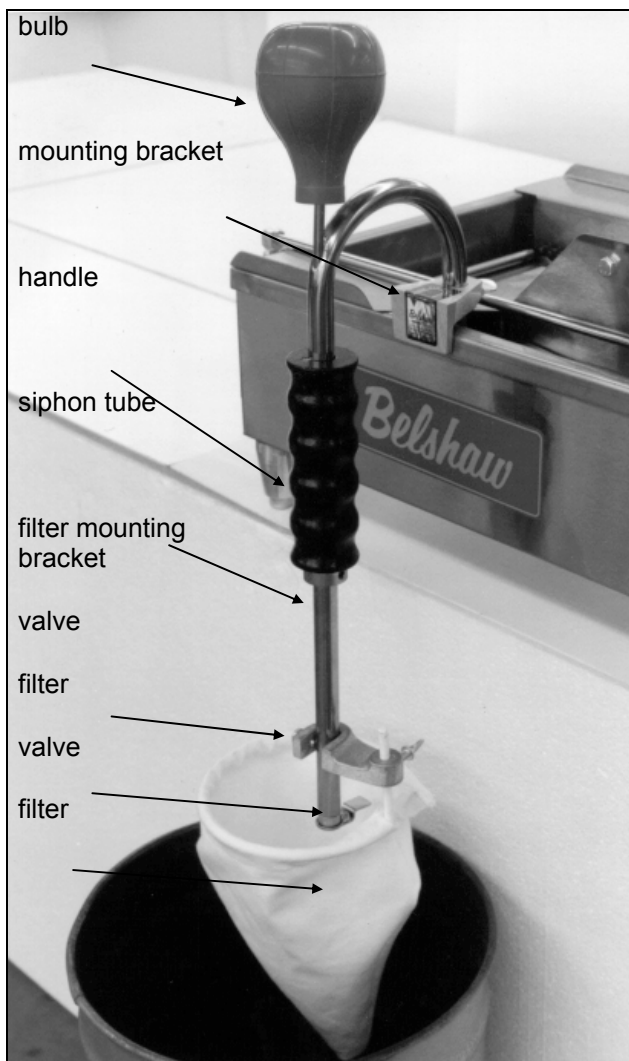

Figure A-5. Filter Flo Siphon.
5. Attach the filter assembly to the lower part of the siphon tube, as shown in Figure A-5. To do this: